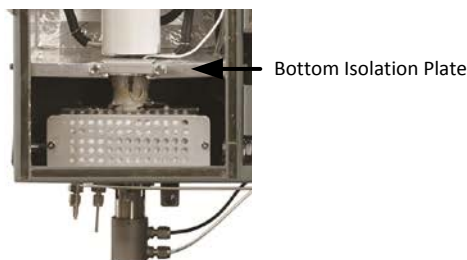

Fig. 5.4. Details at the Bottom of the Column
20. Remove the two screws holding the bottom isolation plate and retain these screws for later use (see Figure 5.4).